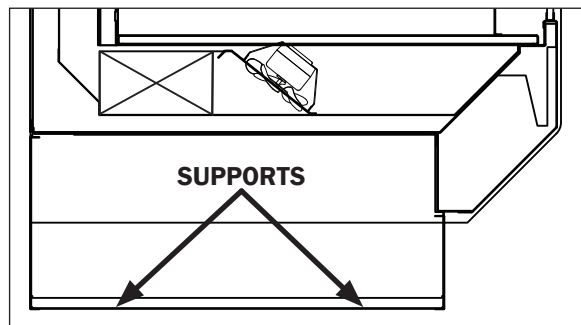

Fig. 2 Horizontal (sled runner) or vertical (caster) supports
- Locate horizontal or vertical (caster) support positions along the chalk line (Fig. 2). Spot properly leveled shim packs at each support location.